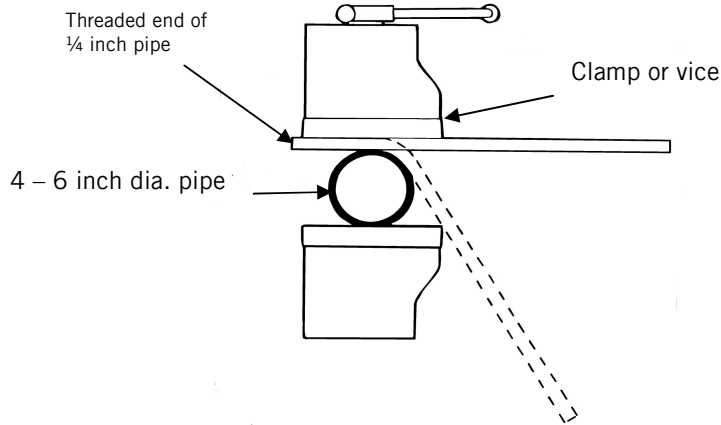

Figure 3: Pipe bending using a clamp or vice
- Bend the pipe 4 inches from the threaded end into a smooth curve, with an angle of about 60-70 degrees. If possible, use a pipe bending machine to have a smooth curve. Alternatively, clamp the 1/4-inch diameter pipe (2a) to a larger diameter pipe (4 to 6-inch) and then manually bend it around the bigger pipe (Figure 3).